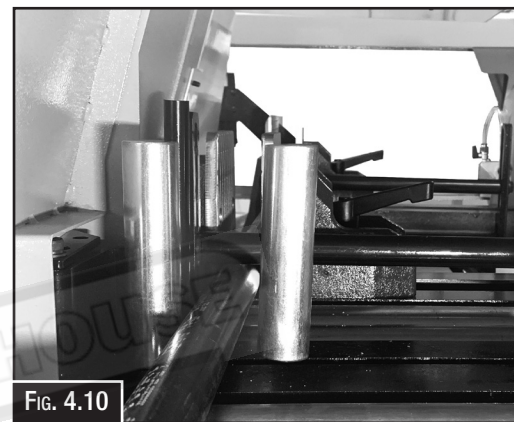

Fig. 4.10
6. **Vertical Roller:** This machine has 2 vertical rollers on each side of material entrance that keep the material from wandering during the operation. Loosen the screw on the down side of the roller . Move the Right side roller close to the cutting material. (Fig. 4.10)